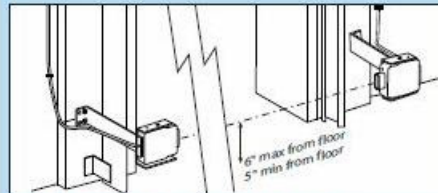

FIG 5-4 Check Safe-T-Beam® alignment.
Check Safe-T-Beam® alignment (Fig. 5-4).
- Insure that tops of lenses are between 5" - 6" above the floor (Fig. 5-4). The brackets are flexible, and can be adjusted slightly if needed.